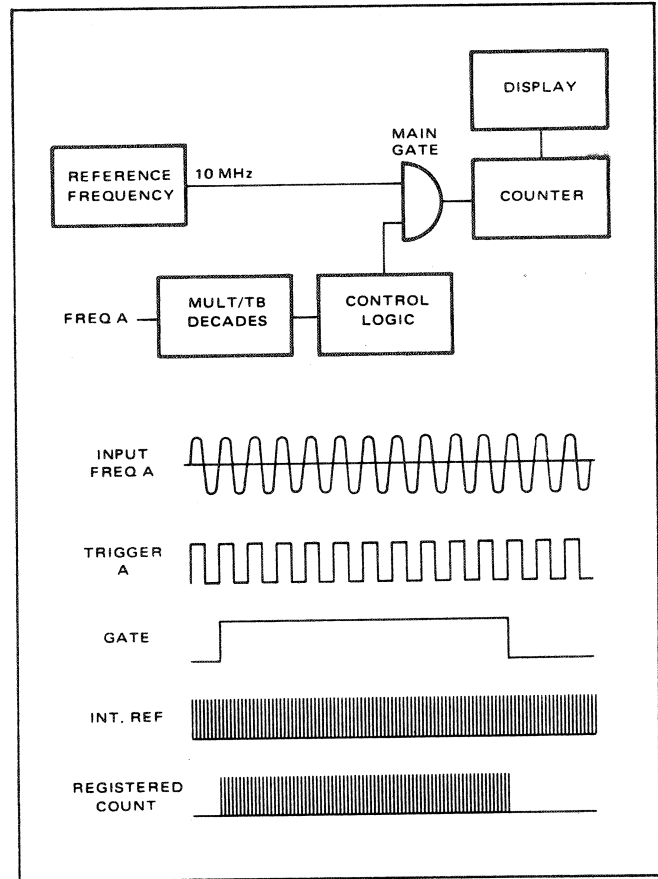

Figure 4.4 - Period Average Mode
4.17 In this mode of operation (figure 4.4), the reference oscillator is routed directly to the main gate and the unknown frequency is routed through the multiplier/time base decades to the control logic which, in turn, controls the main gate. The pulses occurring during main "gate open" are counted, stored, and an accurate readout measurement is displayed. The "gate open" period is determined by the setting of the MULTIPLIER/TIMEBASE switches.